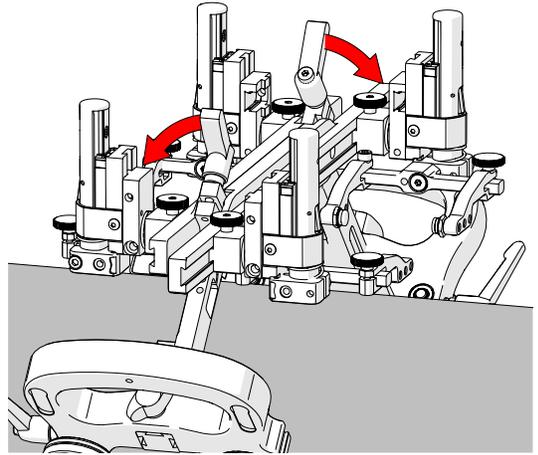

Fig. 99 - Tighten ratchet levers
- Tighten the ratchet levers of the dual pivot frame bar (Fig. 99).